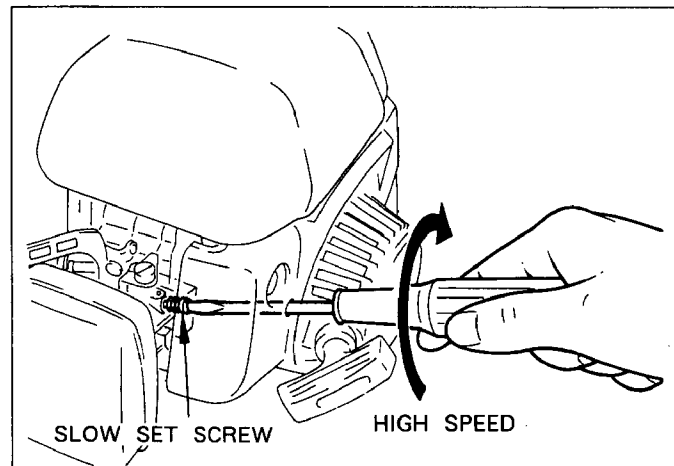

Fig. 31
- (1) Start the engine.
- (2) Check r.p.m. by tachometer.
- (3) Adjust the slow speed at 2800 r.p.m. (2800min^{-1}) by turning slow set screw. (See Fig. 31.)